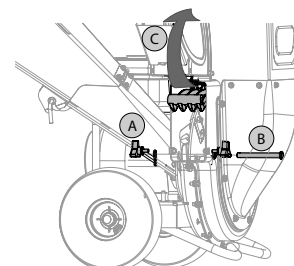

Figure 7
2. If attached, remove debris bag. Remove the two wing knobs on either side of the chute deflector and pivot the chute deflector upward. See A in Figure 7.
3. Remove the hairpin clip from the clevis pin which extends through the housing and shredder screen. See B in Figure 7. Remove clevis pin.
4. Pivot the shredder screen upward. See C in Figure 7. Clean the surrounding area by scraping away debris.
1. Remove the hairpin clip from the clevis pin which extends through the housing and shredder screen. See B in Figure 7. Remove clevis pin.
2. Pivot the shredder screen upward. See C in Figure 7. Clean the surrounding area by scraping away debris.